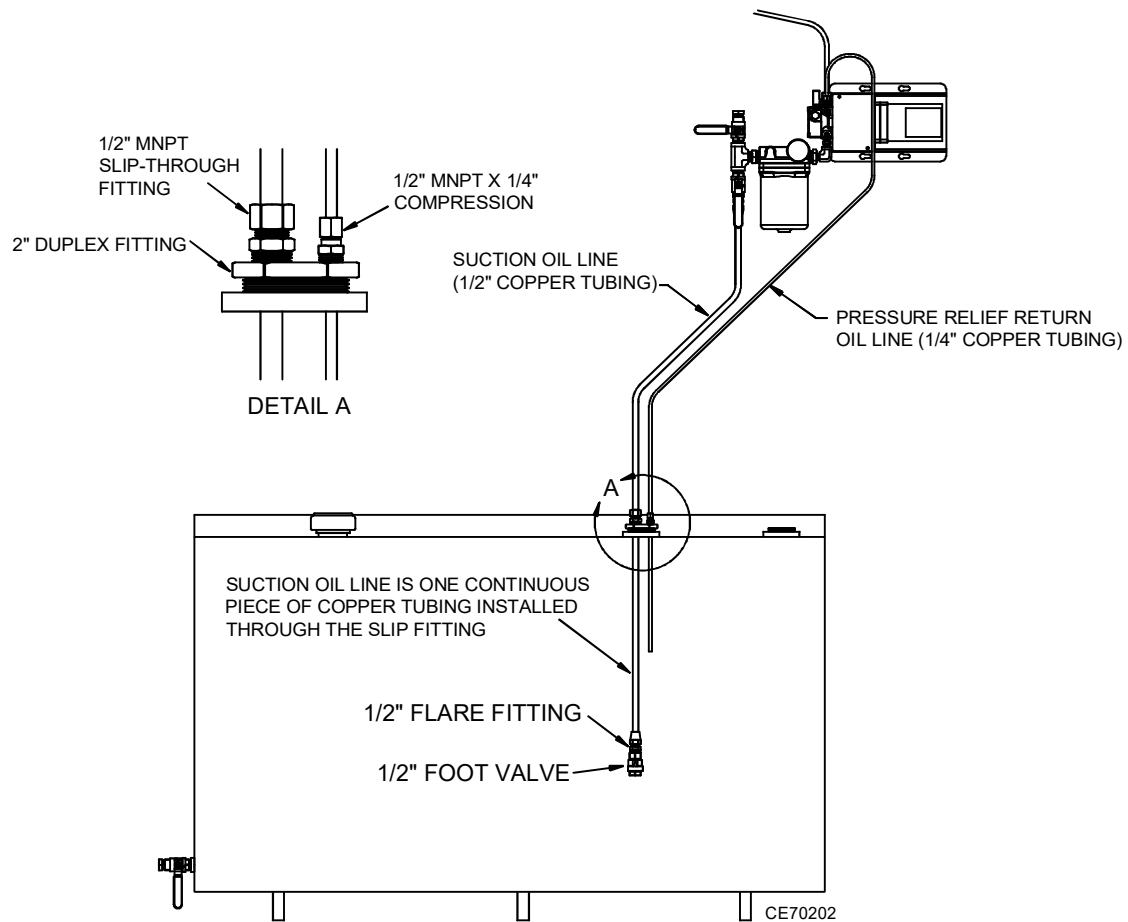

Figure 15: Installing the Suction Oil Line
- (1) Refer to Figure 15.
- (2) Measure the height of the tank. Reduce this measurement by 8" and mark the 1/2" copper suction line tubing at this length.
- (3) Install the 1/2" MNPT slip-through fitting into the side of the 2" duplex fitting marked "S".
- (4) Slide the 1/2" copper suction line tubing through the slip fitting in the 2" duplex fitting up until the mark that was made indicating 8" less than the height of the tank.
- (5) Install the 1/2" flare fitting into the foot valve (arrow on foot valve pointing toward the flare).
- (6) Flare the 1/2" copper suction line tubing and install it on the foot valve.
- (7) Insert the suction tubing into the tank and tighten the 2" duplex fitting.
- (8) Carefully bend the 1/2" copper suction line tubing up to the filter and cut it to length.
- (9) Flare the 1/2" copper suction line tubing and install it on the filter.
- (1) Refer to Figure 15 and 16.
- (2) Install the 1/2" MNPTx1/4" compression fitting into the side of the 2" duplex fitting marked "R".
- (3) Run a piece of 1/4" copper tubing from the pump relief valve back to the tank.